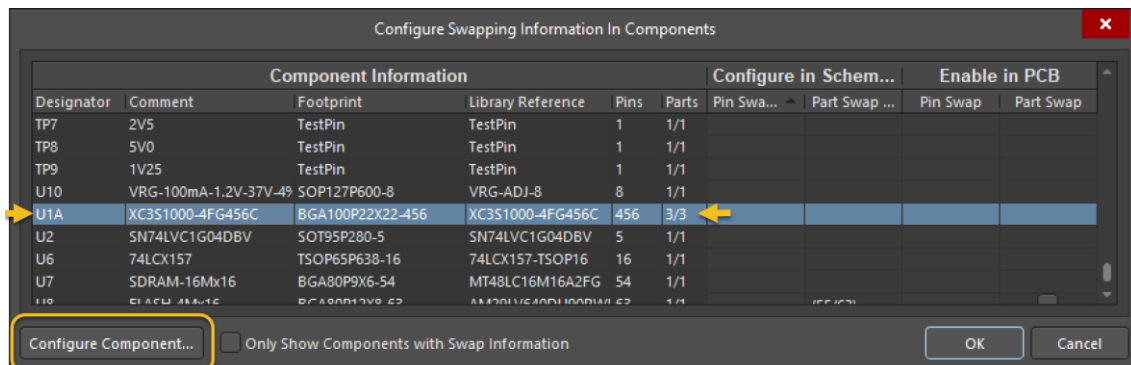

Figure 4. *Configure Swapping Information In Components*
15. Select **Tools » Pin/Part Swapping » Configure** to open the *Configure Swapping Information In Components* dialog. Locate and select the FPGA (U1A) in the list and select the **Configure Component...** button (lower left), as shown in Figure 4. If the FPGA isn't listed, ensure that the **Only Show Components with Swap Information** checkbox is unchecked.